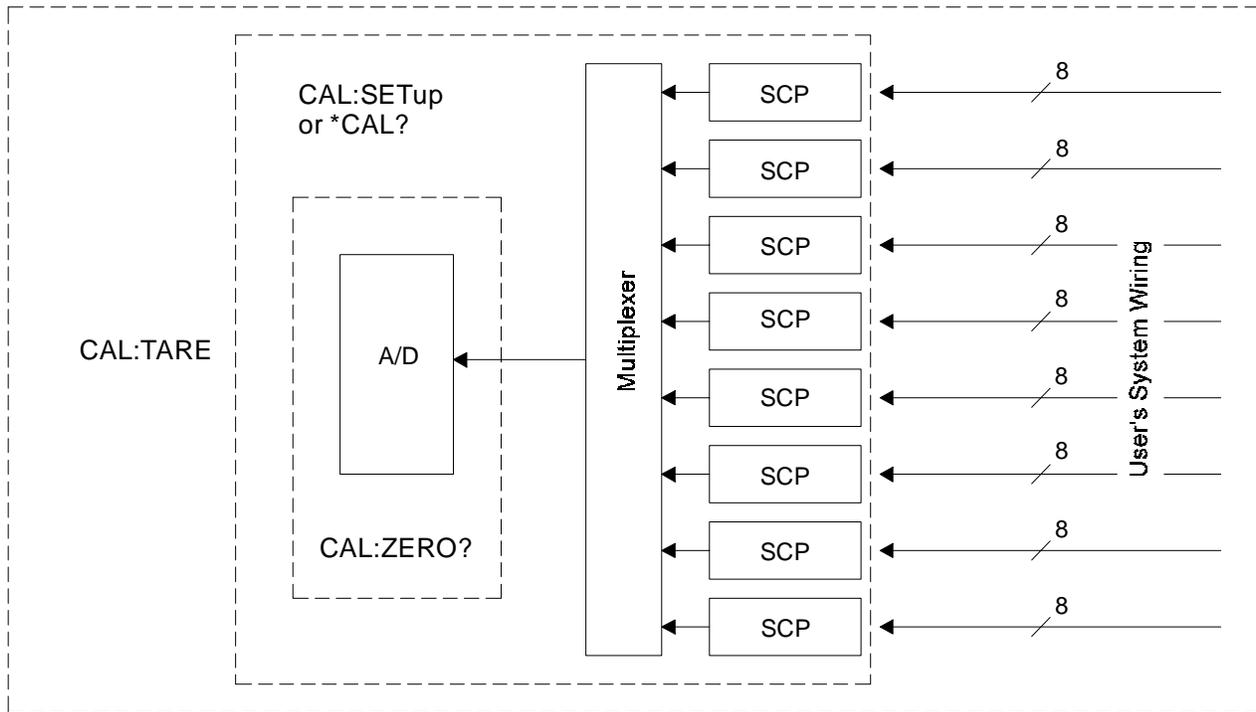

Figure 5-2. Levels of Working Calibration
2. “**Working Calibration**”, of which there are three levels (see Figure 5-2):